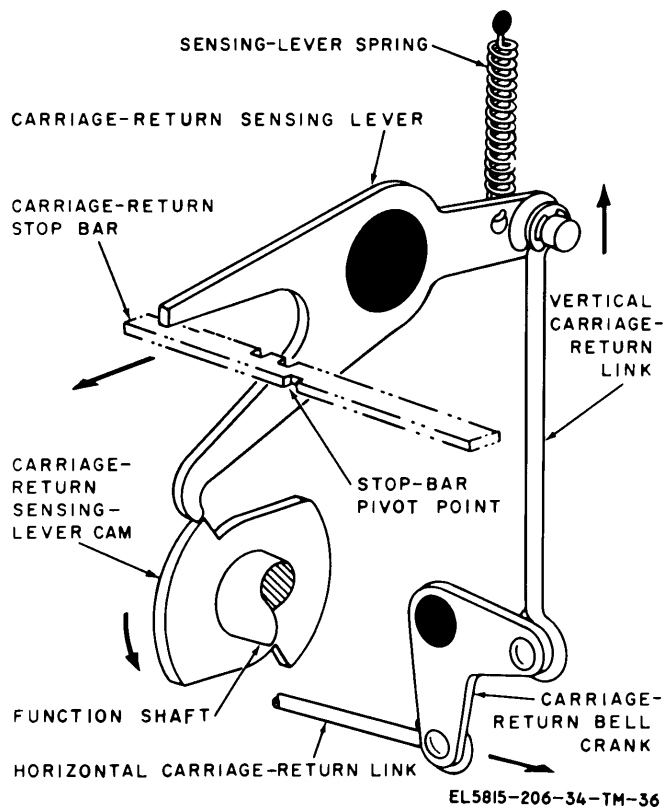

Figure 2-36. Carriage-return sensing mechanism (TT-4A/TG, TT-4B/TG, TT-698/TG, and TT-698A/TG).
*a. Code Group Selection of Carriage-Return Operation.* When the transfer operation (para 2-19) occurs after the fifth code impulse of the carriage-return code group is received, the carriage-return stop bar, located between the figures-shift and line-feed stop bars (fig. 2-24) moves into the groove formed by the code-rings. The opposite end of the stop bar moves away from the upper latching arm of the carriage-return sensing lever (fig. 2-36). The carriage-return sensing-lever cam starts turning when the transfer operation occurs. As a lobe of the cam moves away from the lower arm of the sensing lever, the sensing-lever spring causes the vertical carriage-return link to move upward, moving the
horizontal carriage-return link in the direction shown in figure 2-36 and in A, figures 2-34 and 2-35. The horizontal link pulls the double-blocking lever of the TT-4B/TG, TT-4C/TG, TT-335/TG, TT-537/G, TT-698A/TG, and TT-698B/TG (B, fig. 2-34) or the carriage-return operating lever of the TT-4A/TG and TT-698/TG (B, fig. 2-35) pivoting the carriage-return-clutch lever to push the carriage-return drum into engagement with the carriage-return clutch disk. One arm of the carriage-return latch locks the carriage-return-clutch lever in the counterclockwise position until the latch-tripping arm on the carriage-return driven gear pivots the carriage-return latch (c below).
(3) The carriage-return driven gear rotates counterclockwise during the carriage-return operation. When the carriage reaches the left margin, the latch-tripping arm on the carriage-return driven gear pivots the carriage-return latch to release the carriage-return operating lever of the TT-4A/TG and TT-698/TG and the carriage-return clutch-actuating lever of the TT-4B/TG, TT-4C/TG, TT-335/TG, TT-537/G, TT-698A/TG, and TT-698B/TG. Tension of the carriage-feed clutch-lever spring causes the carriage-return-clutch lever to pivot, placing the carriage-return operating lever or the carriage-return-blocking lever in the normal clockwise position. The TT-4B/TG, TT-4C/TG, TT-335/TG, TT-537/G, TT-698A/TG, and TT-698B/TG includes a throw-out lever that is fastened to the top of the shaft on which the double-blocking lever is mounted. If, for any reason, the piloting of the carriage-return latch does not cause disengagement of the carriage-return clutch, the latch-tripping arm moves against the throw-out lever to disengage the clutch.
*d. Restoring Carriage-Return Sensing Lever.* On the TT-4A/TG, TT-4B/TG, TT-698/TG, and TT-698A/TG, a lobe of the carriage-return sensing-lever cam pushes the carriage-return sensing lever upward (fig. 2-36); on the TT-4C/TG, TT-335/TG, TT-537/G, and TT-698B/TG a restoring roller on the restoring roller and draw-bar cam assembly pushes the carriage-return sensing-lever upward (fig. 2-37) immediately after the carriage starts to move to the left. If the next code group received is not a carriage-return code group, the code rings are repositioned to form a groove in line with a stop bar other than the carriage-return stop bar, and the code-ring end of the carriage-return stop bar is pushed in a direction to cause the opposite end of the stop bar to move under the arm of the carriage-return sensing lever. In this position, the stop bar prevents downward movement of the sensing lever until the next carriage-return code group is received. When the sensing lever is restored to its upper position, the horizontal carriage-return link moves in a direction opposite to that shown in figures 2-34 through 2-36. The carriage-return operating lever of the TT-4A/TG
| 4  | Carriage-return stop bars moved into grooves.  | On the TT-4A/TG, TT-4B/TG, TT-698/TG, and TT-698A/TG lobe of carriage-return sensing lever cam moves past carriage-return sensing lever (fig. 2.36). On the TT-4C/TG, TT-335/TG, TT-537/G, and TT-698B/TG, a restoring roller moves past the sensing lever (fig. 2-37). |
| 10 | Carriage-return-clutch lever pivots; carriage-feed-clutch lever pivots.  | Carriage-return sensing lever raised by carriage-return sensing-lever cam (fig. 2-36).  |
| 11 | Carriage-return-clutch drum engages clutch disk; carriage-feed-clutch drum moves away from carriage-feed driving gear.   | Carriage-return bell crank pivots and horizontal carriage-return link moves to left (fig. 2-36).  |